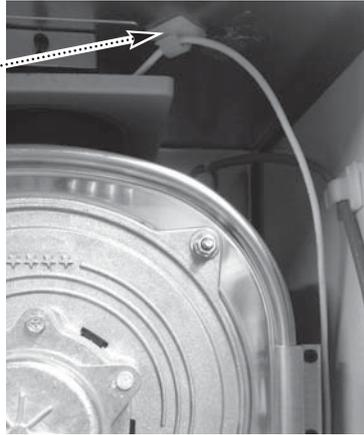

Fig. 3
7. Using the wipe provided clean an area on the inner face of the top panel. Fix one of the self adhesive routing clips to the panel (Fig. 3).